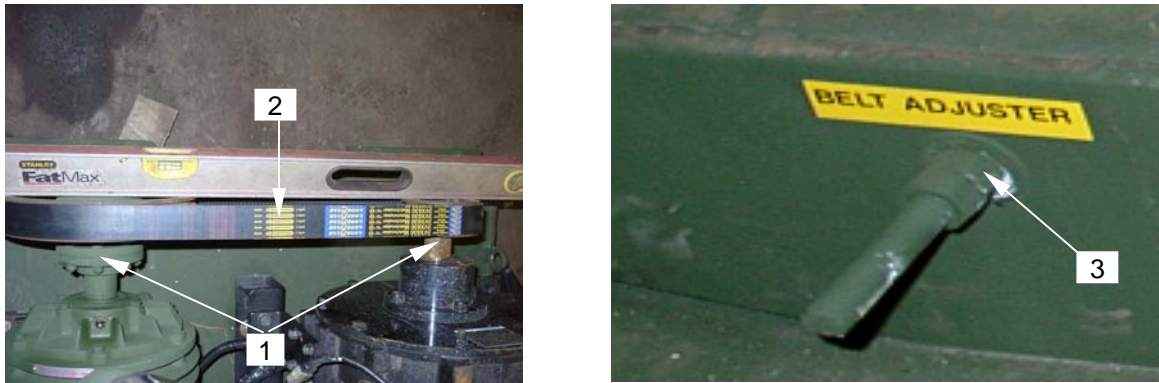

Figure 12. Belt Alignment and Tensioning
11. Align the pulleys (**figure 12, item 1**) as shown, moving the pump slightly to make adjustment.
12. When the pulleys are aligned and the belt slack is taken up, clean the brand area (**figure 12, item 2**) of the belt of dust, oil or other debris
15. Turn belt adjuster (**figure 12, item 3**) to the right to tighten the belt to a setting of 3.5 on belt tensoning gage.